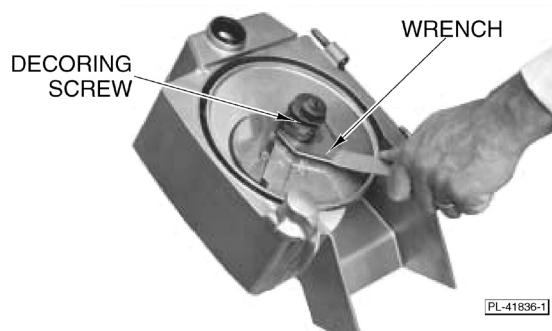

Fig. 6
4. Remove the decoring screw by turning it clockwise with the wrench (Fig. 6).